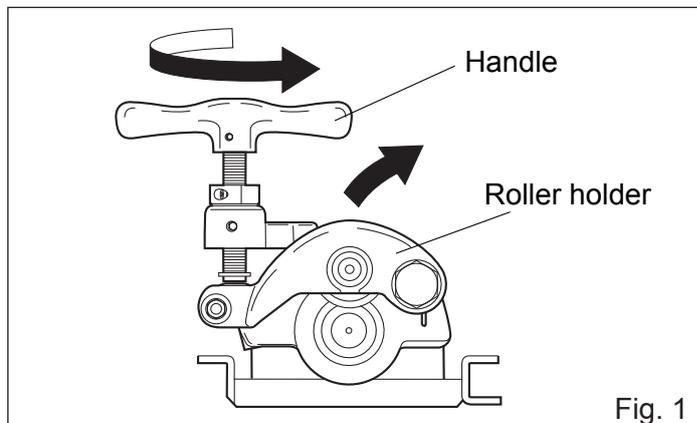

Fig. 1
- 1) Turn the handle anti-clockwise to raise the roller holder to the full. (Fig. 1)